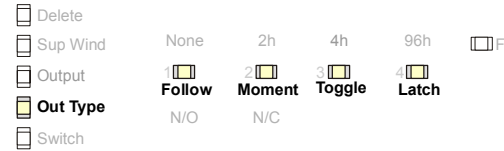

Figure 7 Select the Output Type
6. Use the **Advance** button to select the output type (Fig. 7). There are four output types: